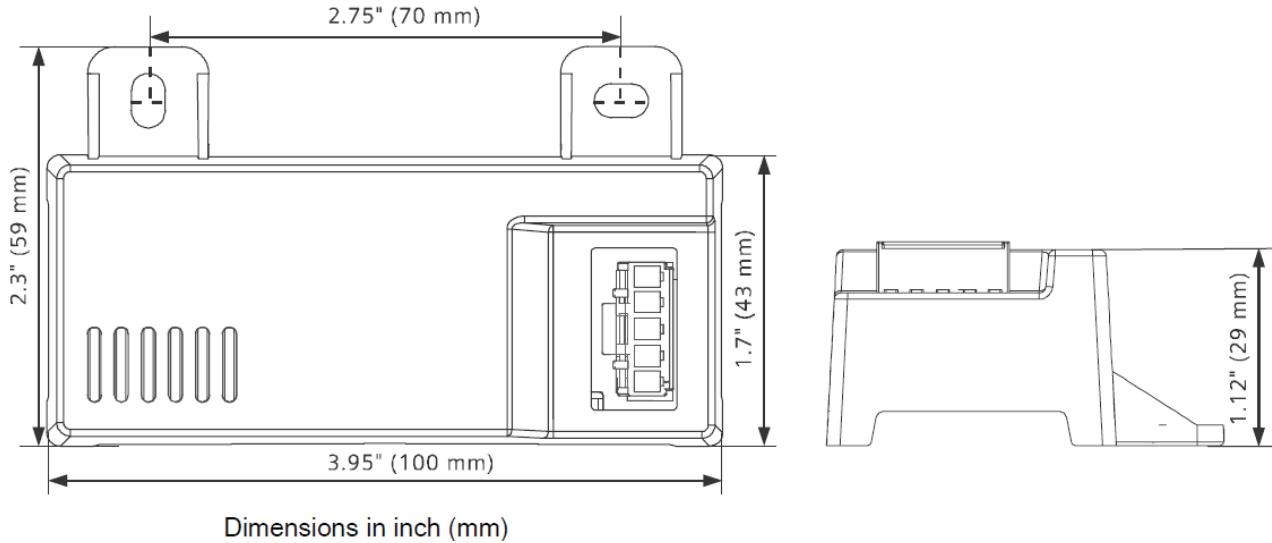
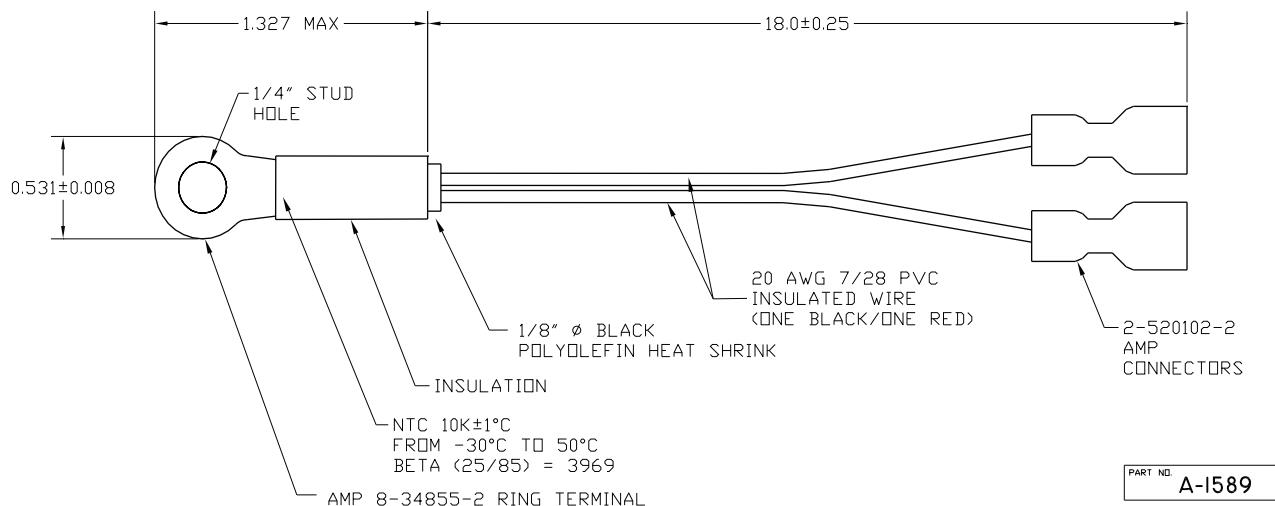
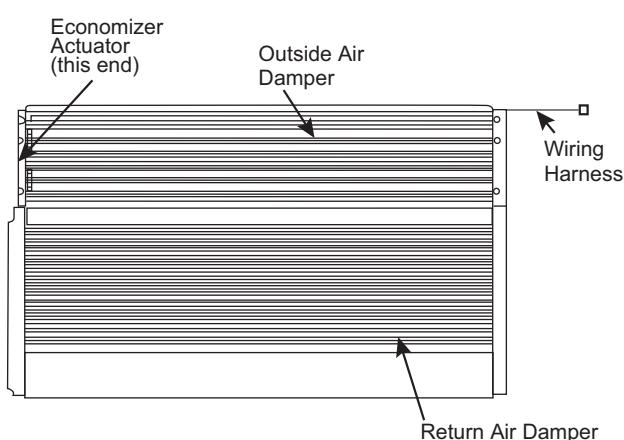

Fig. 62 — HH57LW001 Dimensional, Connection and Switching Information
Fig. 63 — HH79NZ039 Dry Bulb and Mixed Air Sensor Wiring
Fig. 64 — EconomizerONE System Component Locations
When using the HH57LW001 enthalpy sensor (see Fig. 62) for outside air changeover, the existing HH79NZ039 dry bulb sensor (see Fig. 63) must be removed. The enthalpy sensor will be mounted in the same location as the dry bulb sensor (see Fig. 64). When the enthalpy sensor's OA (Outside Air) temperature, enthalpy, and dew point are below their respective set points, outside air can be used for free cooling. When any of these are above their set point, free cooling will not be available. Enthalpy set points are configurable and create an enthalpy boundary according to the user's input. For additional details, see Fig. 65-66 and Table 27.
The optional enthalpy control sensor (P/N: HH57LW001) communicates with the POL224 economizer controller using the 5-wire harness, 48TC005213. The HH57LW001 sensor can be used as a single outside air enthalpy, a differential return enthalpy, or a differential return temperature sensor. Refer to the base unit control wiring diagrams found earlier in this book to wire the HH57LW001 enthalpy sensor for each option. See Fig. 62 and Table 29 on page 46 to locate the wiring terminals for each enthalpy control sensor.
Economizers are shipped standard with an HH79NZ039 outside air dry bulb sensor (refer to Fig. 63). System default setting (high temp limit) is 63°F (17°C) and has a range of 48°F to 80°F (9°C to 27°C). Sensor is factory installed on economizer.
If installing the optional HH57LW001 enthalpy sensor, the HH79NZ039 dry bulb outside air sensor must first be removed. Wire sensor to harness 48TC005213 and the (5) wires from the harness to the EconomizerONE harness in the return air chamber. Harness 48TC005213 has a 5-pin plug that connects directly to the HH57LW001 enthalpy sensor. Refer to the base unit control wiring diagrams earlier in this book for wiring connections. Refer to Fig. 62 and see Table 29.